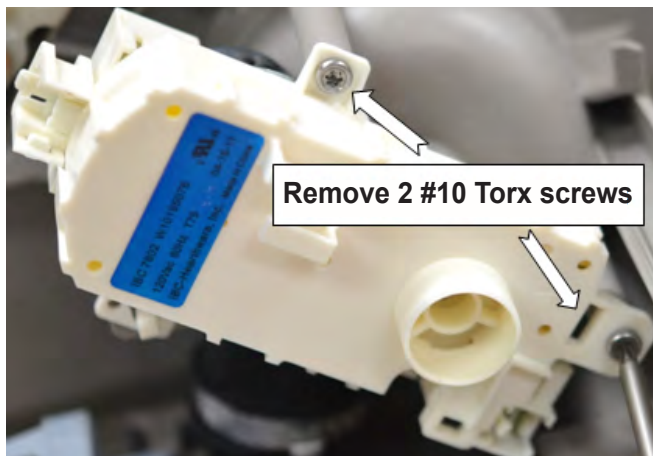

Figure 1
2. Remove 2 Torx screws, see figure 1.